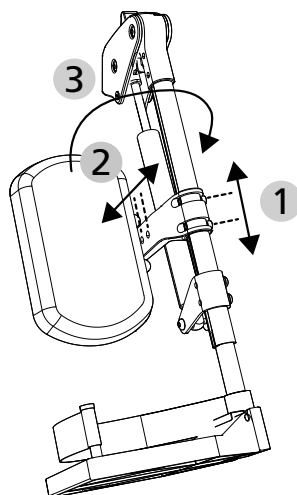

fig.56
1. Loosen the 2 Allen screws 5 mm on the holder to adjust the height. Following adjustment, fix the screws back into the hole pattern in 30 mm steps (1, fig. 56).
2. Loosen the Allen screw 5 mm to enable depth adjustment. Following adjustment, fix the screws back into the hole pattern in 20 mm steps (2, fig. 56).
The calf pad can be swivelled outwards with the holder to relieve the calf and give the leg more room (3, fig. 56)